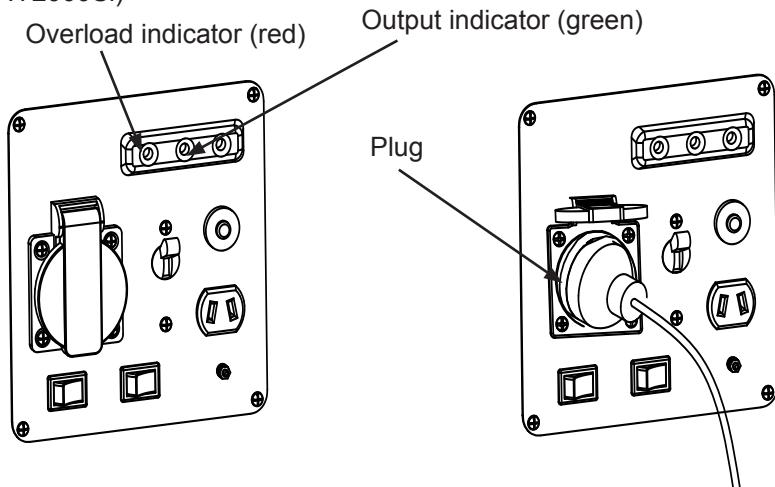
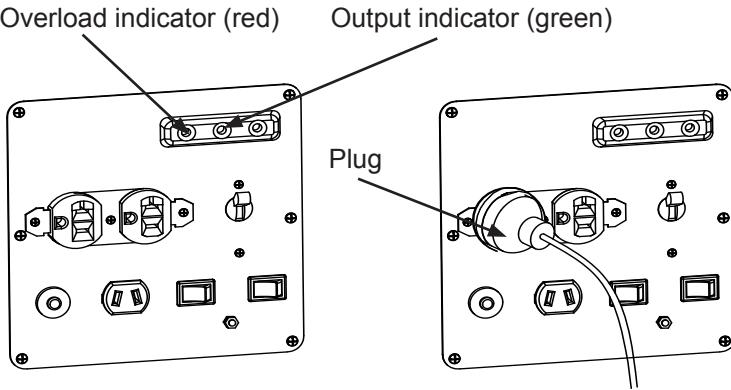

Fig. 4.10
Fig. 4.11
2. Start the generator and make sure the output indicator lights (green) come on. (Refer to Fig. 4.10 for HY1000Si and Fig. 4.11 for HY2000Si)
3. Plug the power cord of the device into the AC socket, turn on the AC circuit protector, and turn on the device. (Refer to Fig. 4.10 for HY1000Si and Fig. 4.11 for HY2000Si)